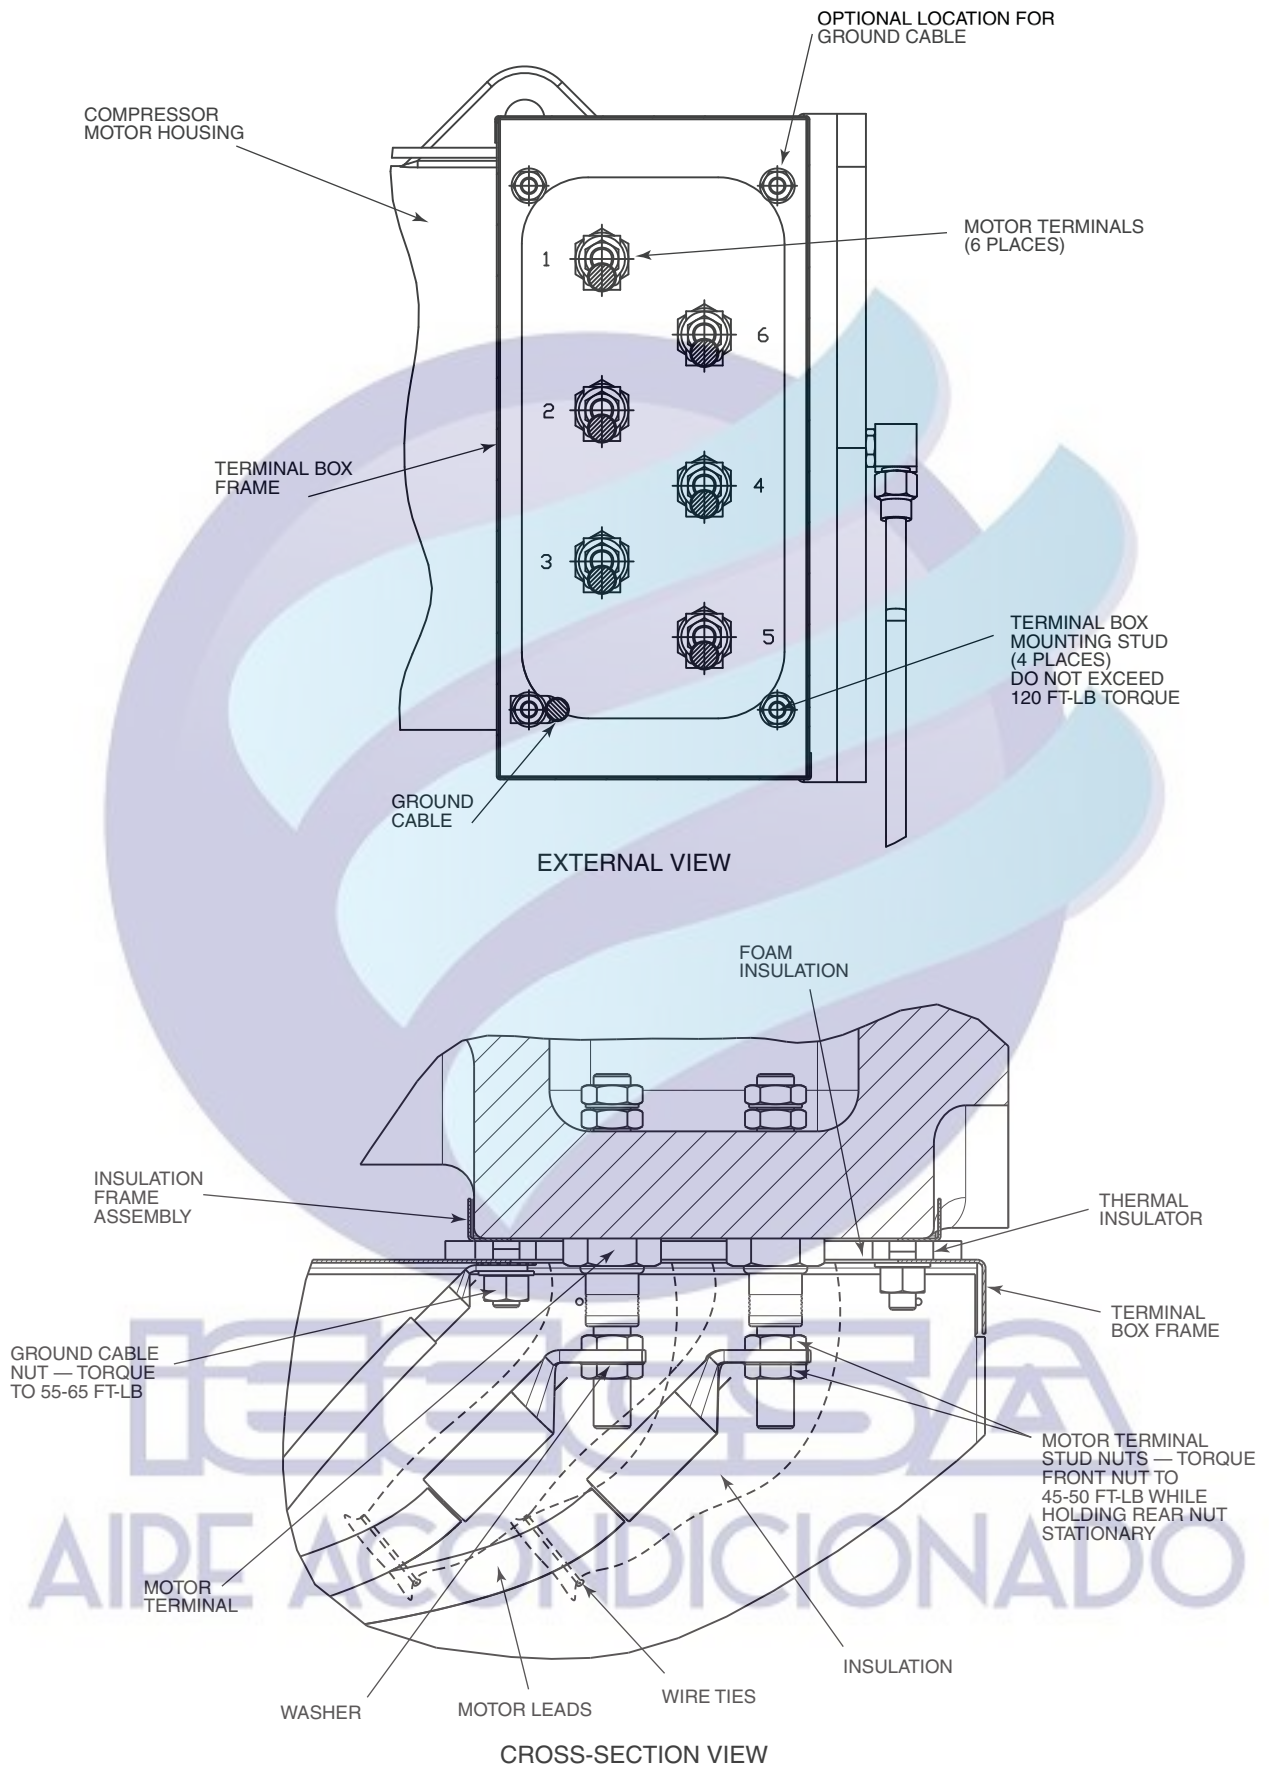

Fig. 24 — Compressor Motor Terminals (Typical)
4. Label and disconnect the motor leads from the motor or VFD terminals (Fig. 24 and 25). Note the position of the motor terminal cable lugs so they can be reinstalled with sufficient clearance away from the surrounding structure. When re-installing the VFD, assemble the back panel, floor, and tray of the motor terminal box transition piece prior to installing the motor leads.
1. Install terminal box frame mounting studs into tapped holes using short threaded end. Do not exceed 120 ft-lb (163 N-m). See Fig. 24.
4. There may be 1 or 2 motor power cables per terminal identified as T1, T2, and T3. Position motor end lugs on terminal studs with Belleville washer located against the front terminal lug with the convex side facing toward the front terminal nut. Clinch the two cables together with wire ties before tightening terminal nuts. Install front terminal nut finger tight. Hold rear terminal nut stationary while tightening front terminal nut to 45 to 50 ft-lb (61 to 68 N-m). See Fig. 24.
Locate heat shrink tubing (RCD P/N LF33MM114) over power connections so that they are completely covered and tubing is against motor housing. Shrink into position. Slide foam tubing (3 in. inner diameter closed cell vinyl, neoprene, or nitrile foam) partway over the heat shrink tubing. Apply adhesive for closed-cell foam insulation to motor-side end of the foam tubing, and push tubing the rest of the way over the terminal and against the sheet insulation on the motor side. Secure the opposite end of the foam tubing with a wire tie as shown in Fig. 24.
6. Orient PE/ground lug as shown in Fig. 24. Assemble internal/external tooth lock washer between the terminal box frame and the PE/ground cable. Torque PE/ground lug nut to 55 to 65 ft-lb (75 to 89 N-m).